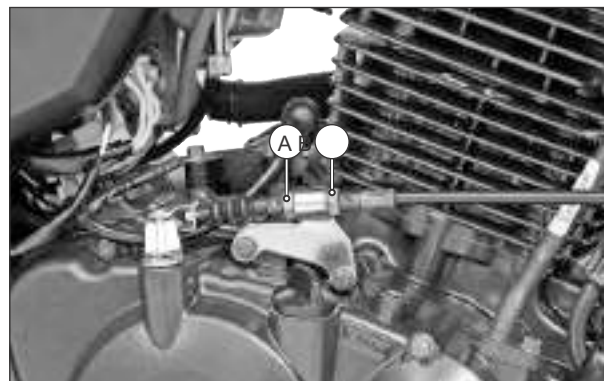

Fig. 2.69
- If the play is more or less, loosen the lock nut (A) and turn the adjusting nut (B) 'in' or 'out' until the specified play is obtained. And then tighten the lock nut (A), while holding the adjusting nut (B) in the same position. (Fig. 2.69)